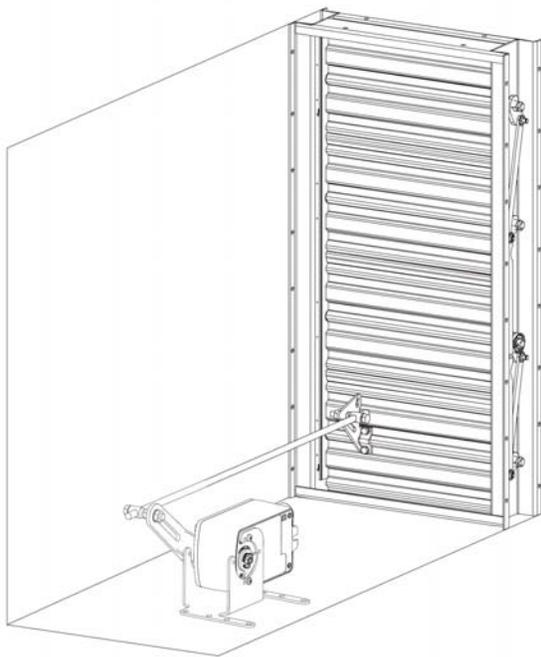
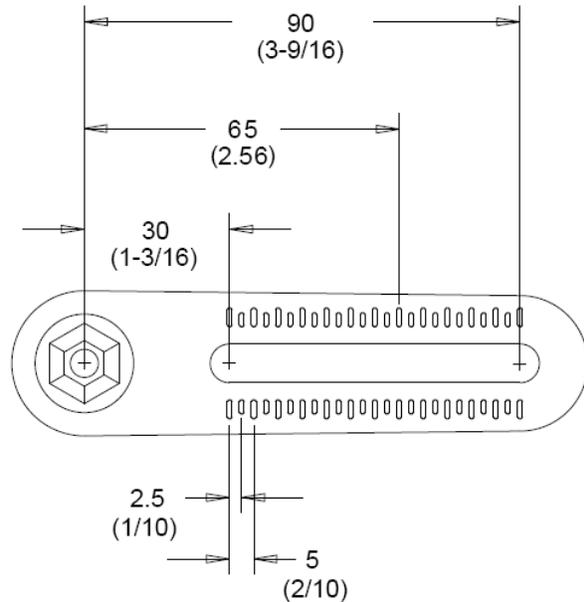

Figure 4: Typical Mounting Configuration
Figure 7: Crankarm Dimensions, mm (in.)
1. Locate the mounting bracket so that the linkage rod is approximately perpendicular to the face of the damper when attached to the driven blade. Johnson Controls® D1300 Series Dampers should be driven from the No. 1 blade as illustrated in Figure 4.
6. Install the crankarm and washer using the M5 cap screw and nylon insert hex nut (Figure 4). The washer only fits in one direction from the tab shown in Figure 7. Install the M5 nylon insert hex nut using the recommended torque of 1.7 to 2.3 N·m (15 to 20 lb·in).
- b. Insert the ball joint through the slot in the crankarm. A 2.56 in. (65 mm) crank radius matches the maximum radius of the damper blade arm and is preferred for installations that require a 90° actuator and damper blade rotation. Figure 7 shows the crankarm slot dimensions.